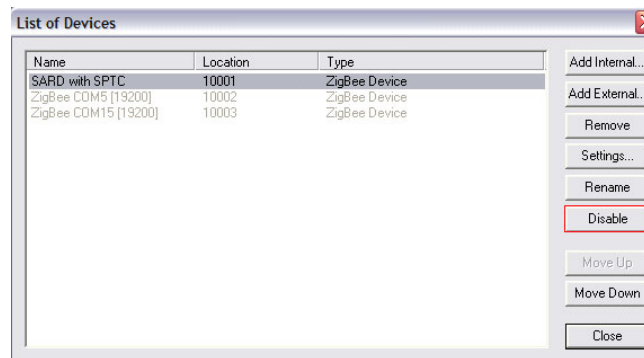

Figure 45. Enabling and Disabling Connections
- The List of Devices window appears as shown in Figure 45. Disable all connections except the SPTC connection that was just created by highlighting the connection to be disabled, and clicking on the Disable button. The disabled connections are grayed out.